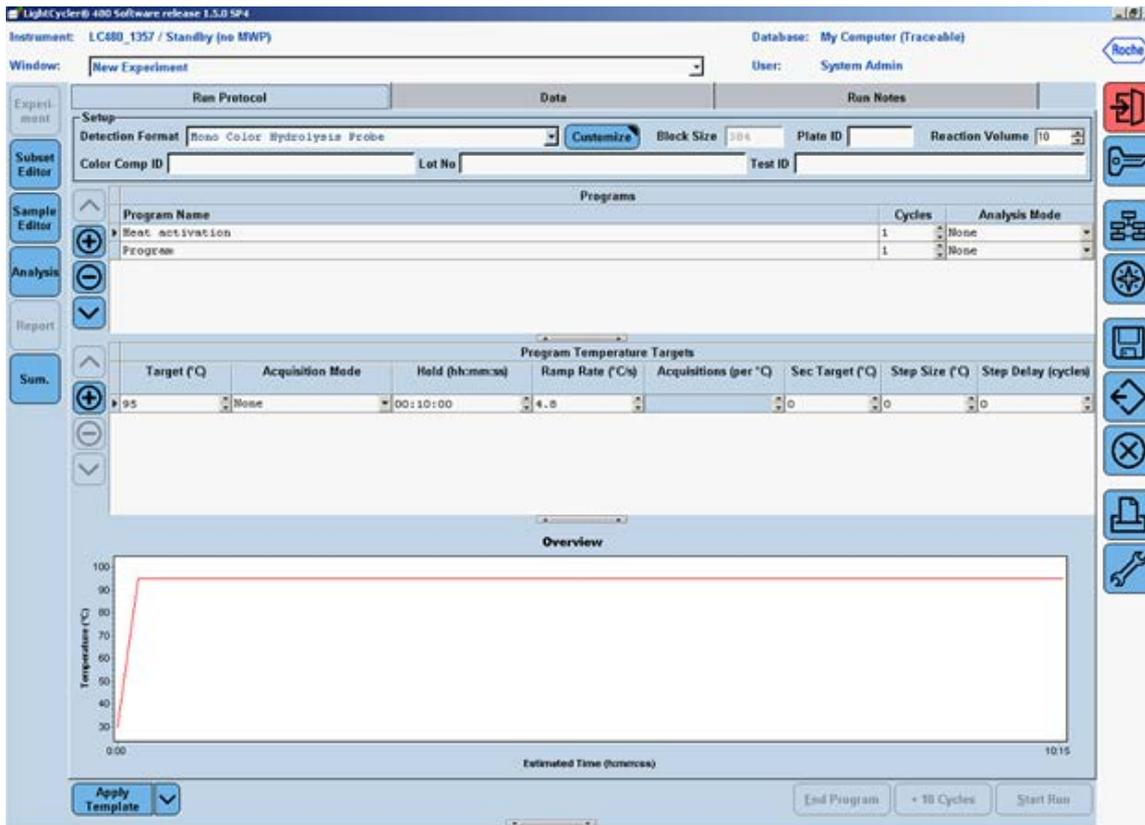

Figure 4. Setup of the second program — “PCR Cycling.”
8. Click to change the “Program Name” of the 2nd program to “PCR Cycling”. Change the number of “Cycles” to “45”† and change the “Analysis Mode” to “Quantification”. In the “Temperature Targets” section, click the  button twice to add two more temperature target lines. Enter the values for the following parameters (Figure 4):